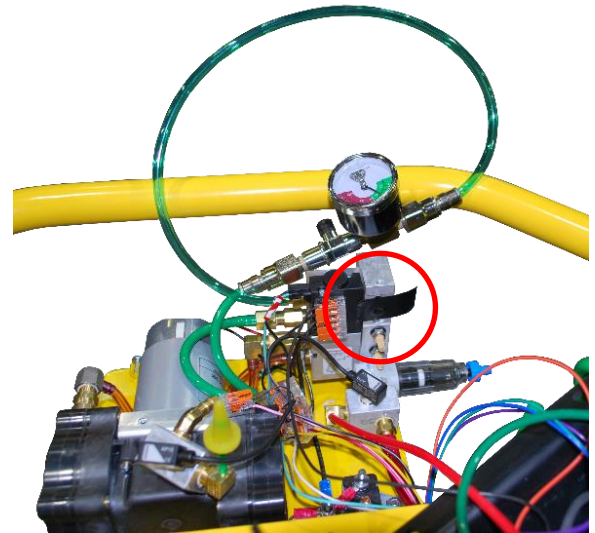

FIGURE 24
See **FIGURE 24**.
- 44) To seal off the (unthreaded) port of the manifold assembly where the filter was attached, remove the O-ring from the assembly, clean the surface with alcohol (to remove any grease) and place a piece of vinyl electrical tape over the port as shown in **FIGURE 24** (circled area).